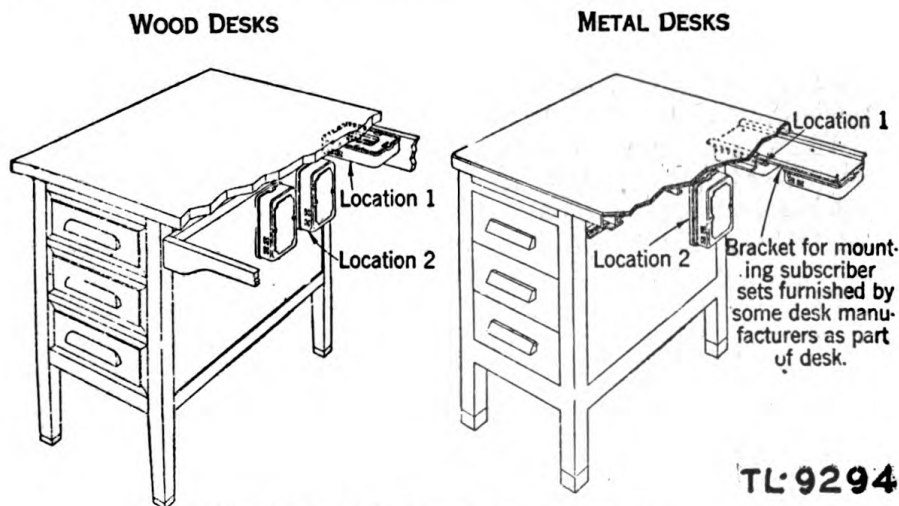

Figure 99. Bell boxes mounted on desk.
f. **LOCATING AND MOUNTING BELL BOXES FOR DESK SETS.** (1) When the telephone set is to be placed on a desk or table, locate the bell box on the wall at a point where the box will be least liable to damage.
(2) If the distance between the desk or table and the wall exceeds 8 inches, mount the bell box directly on the desk or table.
(3) Locate bell boxes on desks as shown in figure 99. Location 1 (fig. 99) is preferable for bell boxes with bakelite covers; location 2 (fig. 99) is preferable for bell boxes with metal covers.